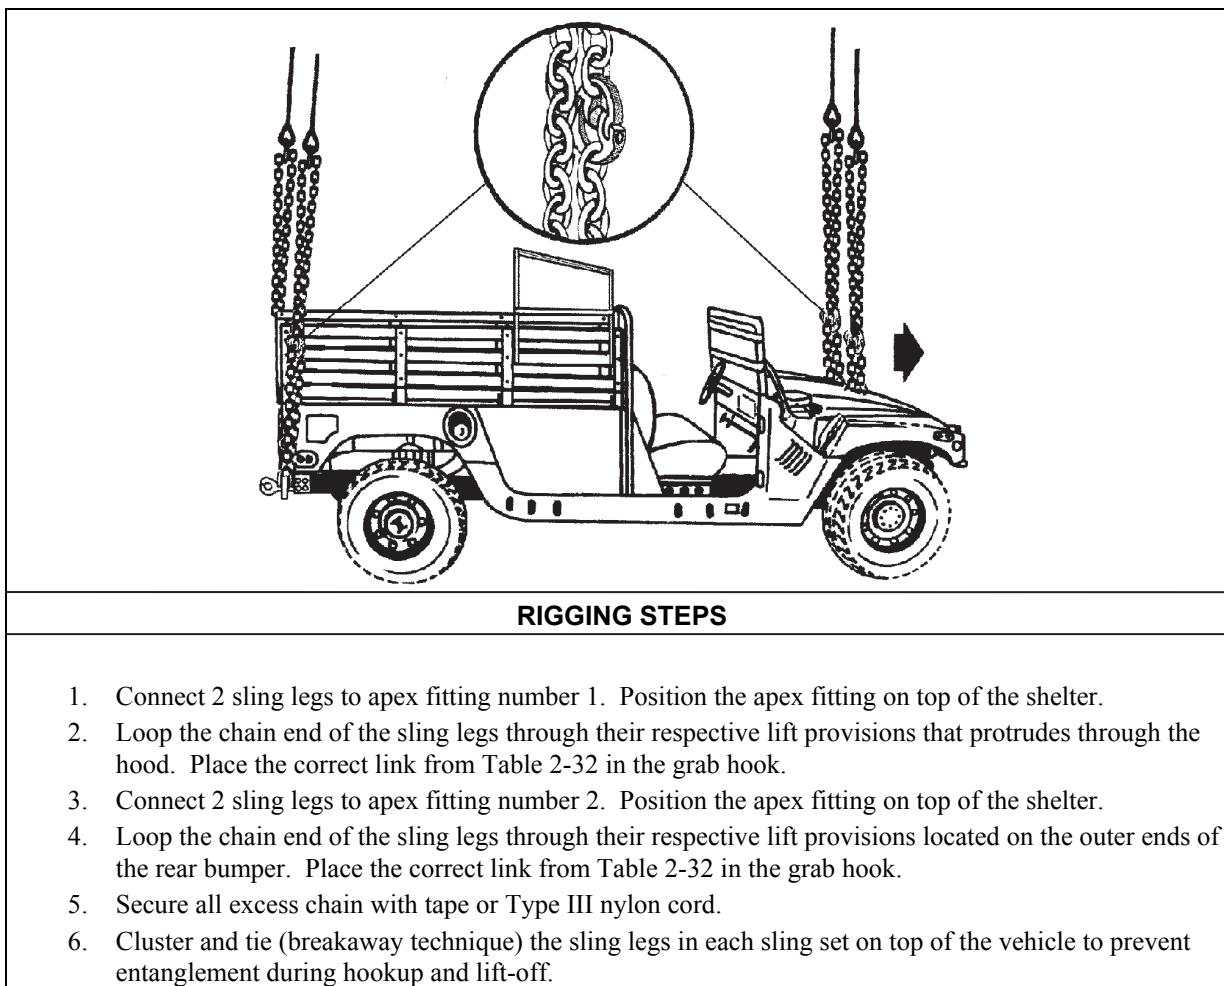

Figure 2-31. M1097A2 with Advanced Field Artillery Tactical Data System Full Size or Partial Soft Top Installation Kit
- **Rigging.** Rig the load according to the steps in Figure 2-31.